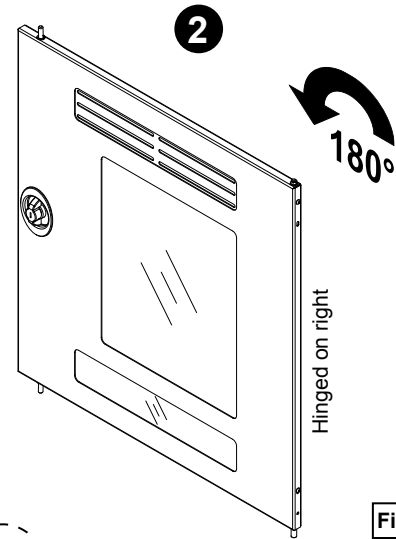

Figure 4C
2. Rotate the door 180°. **Figure 4C.**